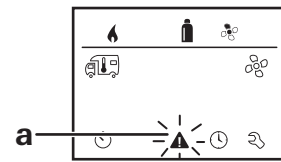

Fig. 23
1. Select the icon (Fig. 23 – a) with the rotary push button.
In this case, the error is not acknowledged in the CP plus and the warning icon (Fig. 23 – a) remains. The appliance remains in error status. Other connected appliances can be operated.
1. Select the warning symbol (Fig. 23 – a) with the rotary push button.